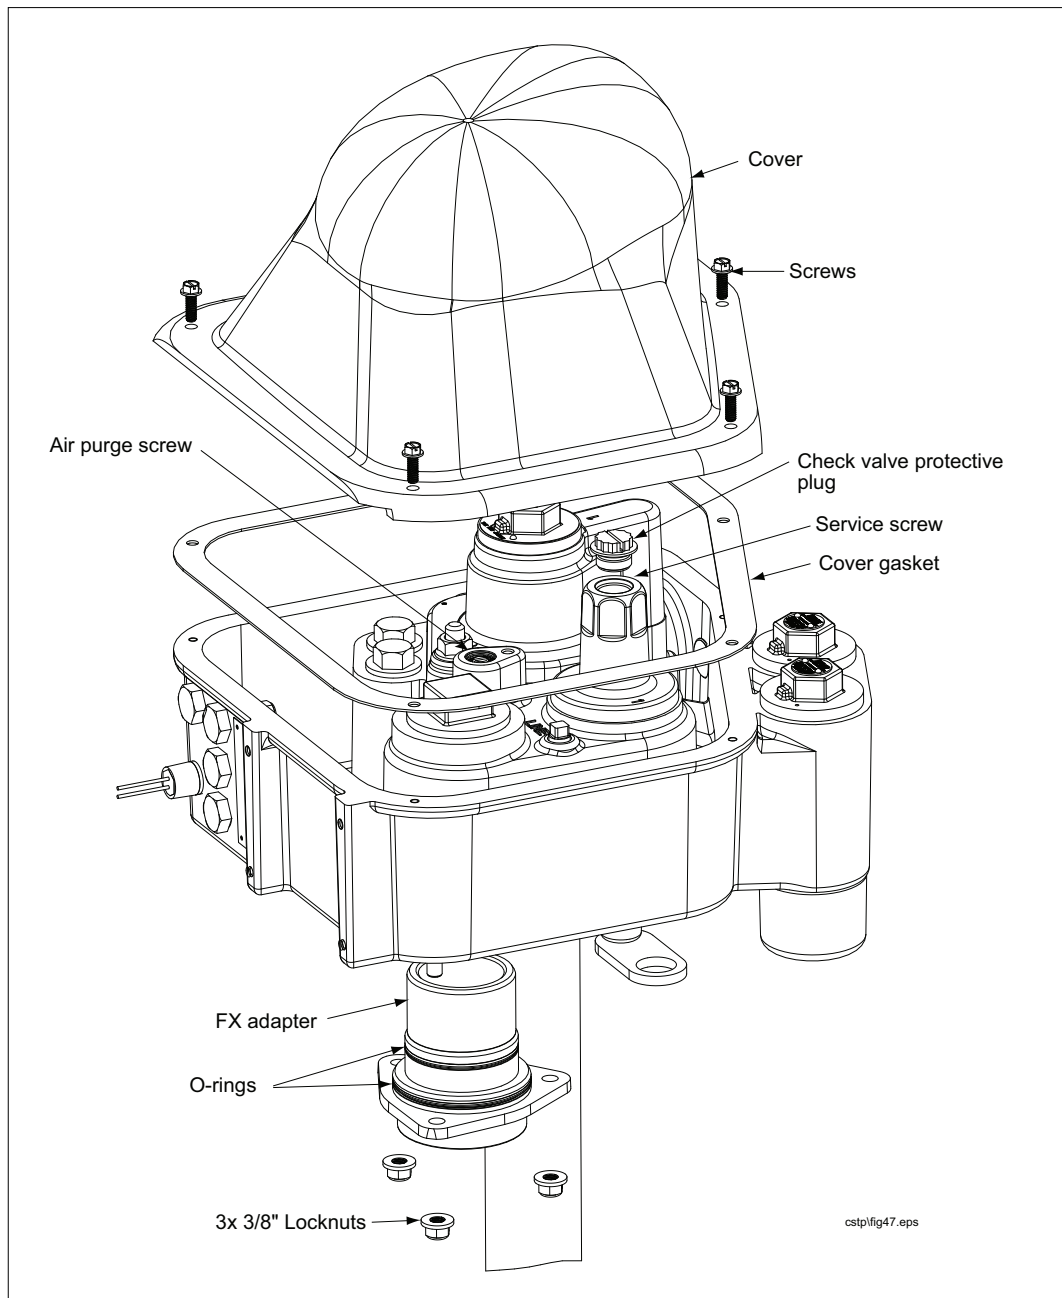

Figure 51. Locating FX Adapter
9. Remove the three lock nuts from the FX adapter (see Figure 51) and discard them.